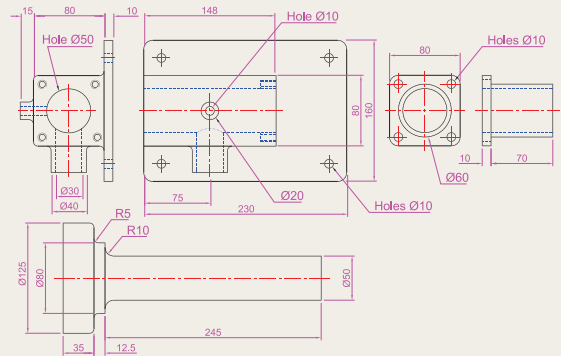
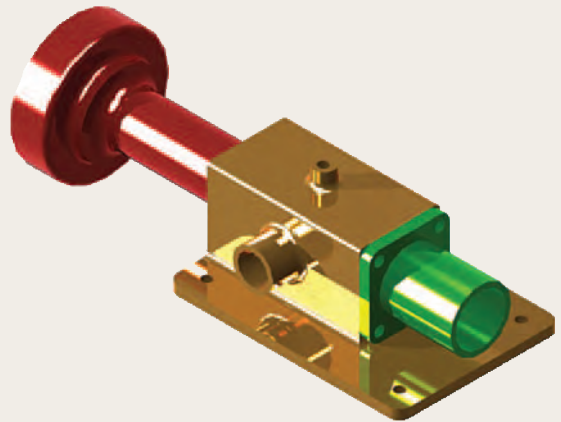

Fig. 18.24 Exercise 2 – details of shapes and sizes
Fig. 18.25 Exercise 2
2. Working to the dimensions given in the orthographic projections of the three parts of this 3D model (Fig. 18.24), construct the assembled parts as shown in the rendered 3D model of Fig. 18.25.